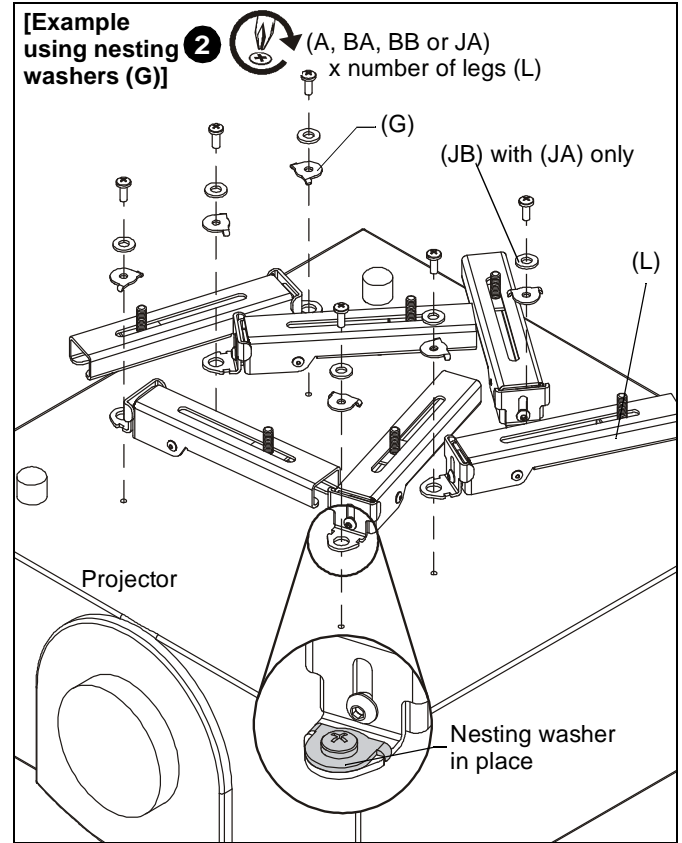
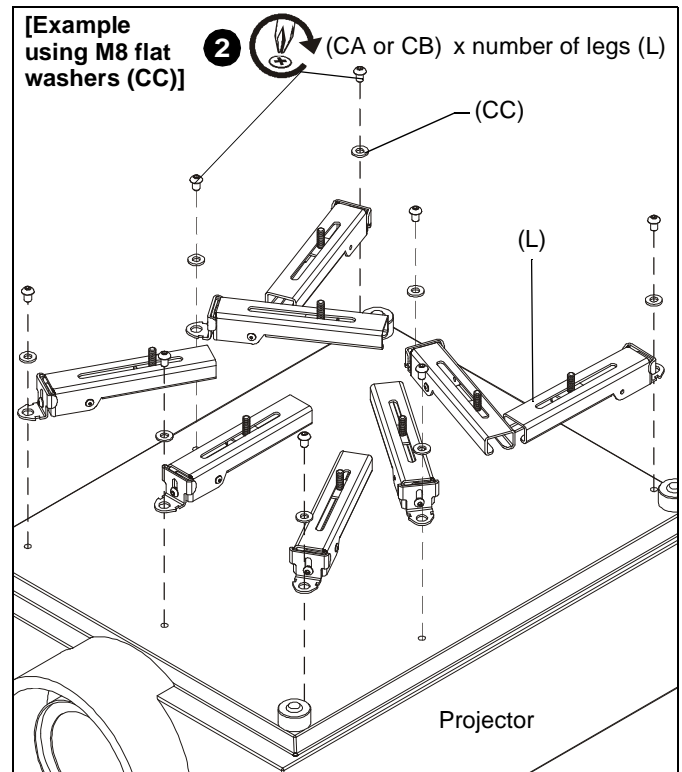

Figure 1
Figure 2
2. Attach HBU legs (L) to projector using selected fasteners and washers. (See Figure 1) and (See Figure 2)